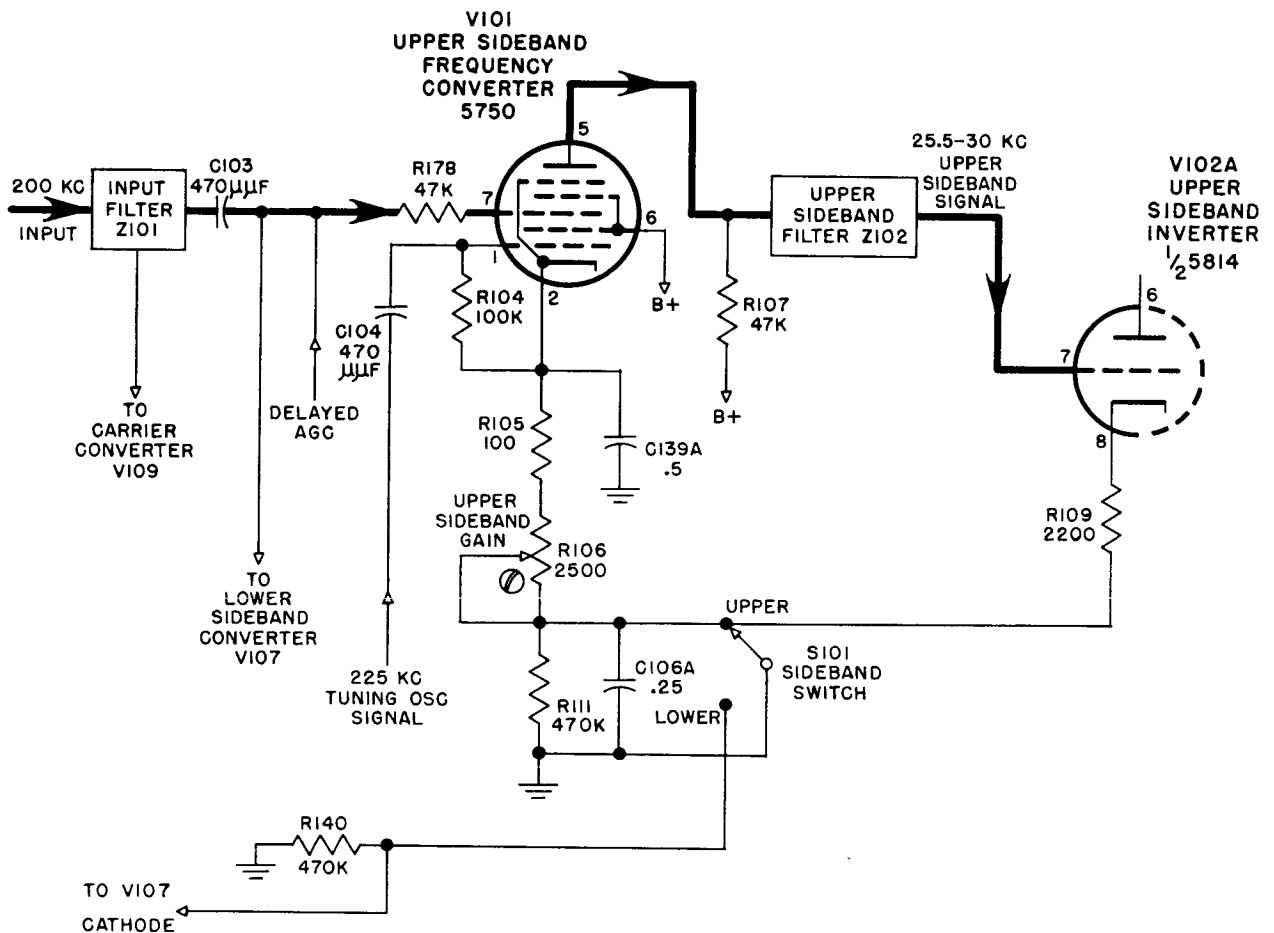

Figure 2-3. Upper Sideband Separation Channel, Simplified Schematic Diagram
a. **SIDEBAND SEPARATION CHANNEL.** (See Figures 2-3 and 7-7.)—The sideband separation channel has two major functions: (1) to convert the sideband component of the input signal to an intermediate frequency in the 25.5 to 30 kilocycle frequency range and (2) to separate one sideband from the carrier and other sideband. The circuits include input filter Z101, sideband frequency converters V101 and V107, and sideband filters Z102 and Z104. The upper sideband frequency converter and filter stages are identical in operation to the corresponding lower sideband stages, except that filter Z102 is designed to pass the upper sideband frequency range of 25.5 to 30 kilocycles, whereas filter Z104 passes the lower sideband frequency range of 20 to 24.5 kilocycles. For this rea-
son, only the upper sideband circuits are shown on Figure 2-3 and are used in the following discussion.
band demodulator. Since the signal voltages across resistors R112 and R114 are equal, the voltages applied to the grids of the sideband demodulator are equal. Therefore these two sideband voltages, 180° out of phase, operate the sideband demodulator in push-pull with minimum harmonic distortion. Sideband switch S101 controls the operation of the inverter by grounding either R109 or R110, allowing the desired inverter to conduct. When Sideband switch S101 is in the UPPER position, resistor R109 is grounded, allowing upper sideband inverter V102A to conduct. When the switch is in the LOWER position, resistor R110 is grounded, allowing lower sideband inverter V102B to conduct. See Figure 2-3.